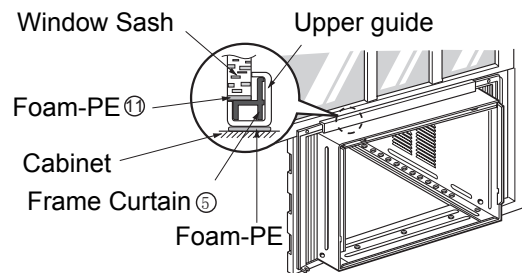

Fig. 2
2. Slide the unit out from the cabinet by gripping the base pan handle and pulling forward while bracing the cabinet. (Fig.2)
2. Pull the bottom window sash down behind the Upper Guide until they meet. (Fig. 2)